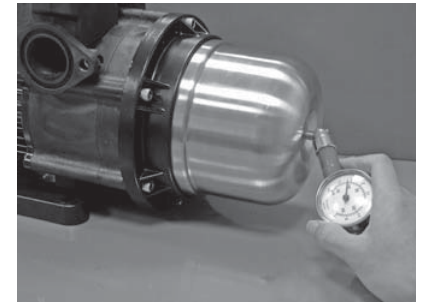

Fig. 4
- Pressure tank air charge should be checked at regular intervals of every 3 months and after the pump has not been used for a prolonged period. To check the Pressure Tank air pressure, turn off power, open a tap on the discharge line to release pressure from the pump, unscrew the black plastic cover and apply an accurate pressure gauge to the valve as shown in Fig 4.